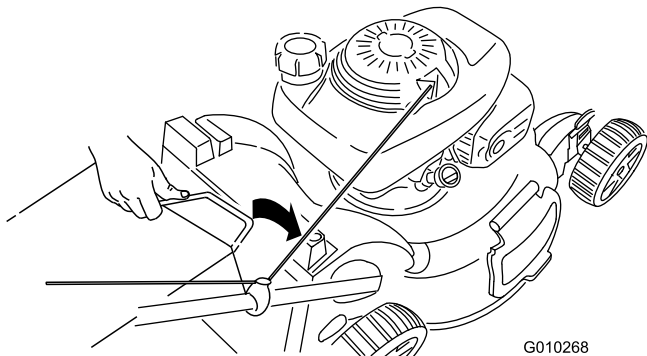

**Figure 26**
2. Route the starter rope around the lower-rope guide (Figure 26).